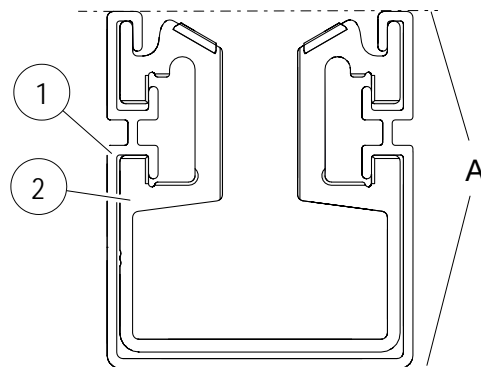

Fig. 52: Insulation profile (1), aluminium rail (2) and surface for clamping (A)
- Cut off the insulation profile and aluminium rail separately and at right angles with a cross-cut saw. Use clamping surface A (see Fig. 52) so that the interior of the aluminium rail is not deformed.